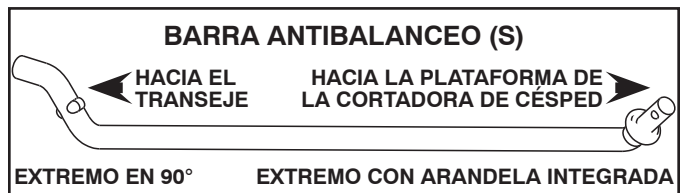

Fig. 8
5. SI LA TIENE, INSTALE LA BARRA ANTIBALANCEO (S) (Vea Fig. 8 - 11)